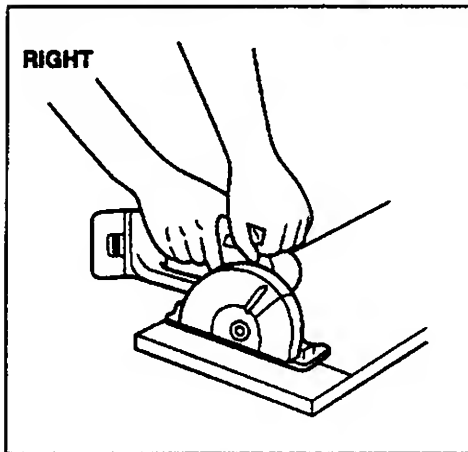
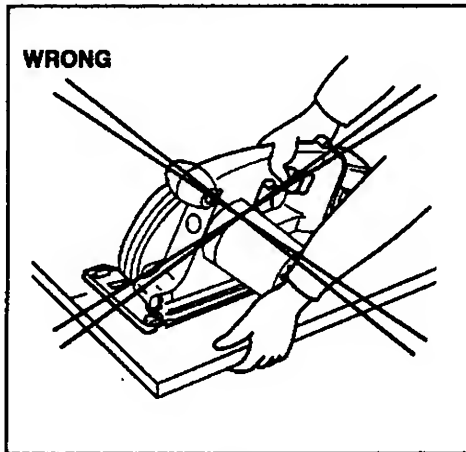

Fig. 11
Fig. 12
4. Place the wider part of the cutter base on the part of the work piece which is solidly supported (Fig. 11), never on the section that will fall off when the cut is made (Fig. 12).